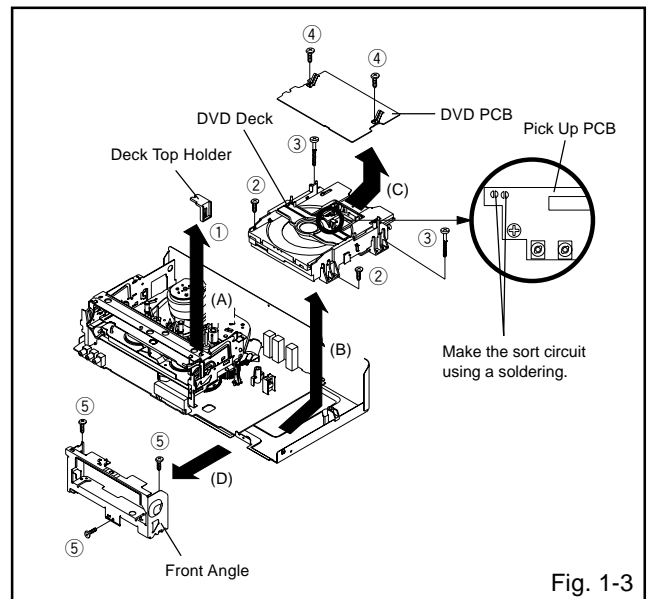

Fig. 1-3
1-3: DVD DECK/DVD PCB (Refer to Fig. 1-3)
1. Make the short circuit on the position as shown Fig. 1-3 using a soldering. If you remove the DVD Deck with no soldering, the Laser may be damaged.
2. Unlock the support ① and remove the Deck Top Holder in the direction of arrow (A).
3. Remove the 2 screws ②.
4. Remove the 2 screws ③.
6. Remove the DVD Deck in the direction of arrow (B).
7. Remove the 2 screws ④.
8. Remove the DVD PCB in the direction of arrow (C).
9. Remove the 3 screws ⑤.
10. Remove the Front Angle in the direction of arrow (D).